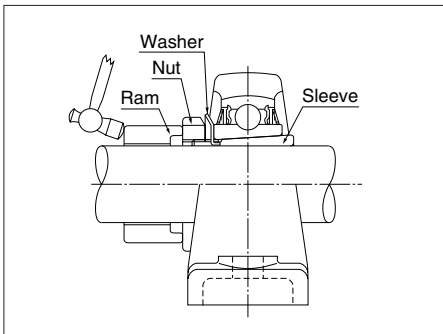

Fig.8.18
- 2) Consider the adapter type:** straighten the bent tab of the lock washer, and turn back the nut by two or three turns. Then, place a metal block on the nut side face, and tap it with a hammer around the circumference to remove the sleeve (**Fig.8.18**). NEVER tap the cover if only a portion of nut threading remains engaged. Otherwise, the thread of the nut can be damaged.